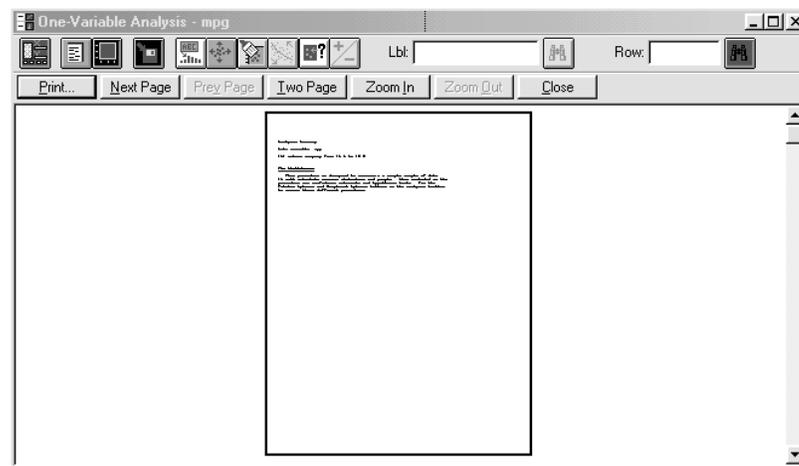

Figure 6-7. Print Preview Window
5. Choose FILE... PRINT PREVIEW... from the File menu on the Application toolbar to display the first page in the Print Preview window (see Figure 6-7).